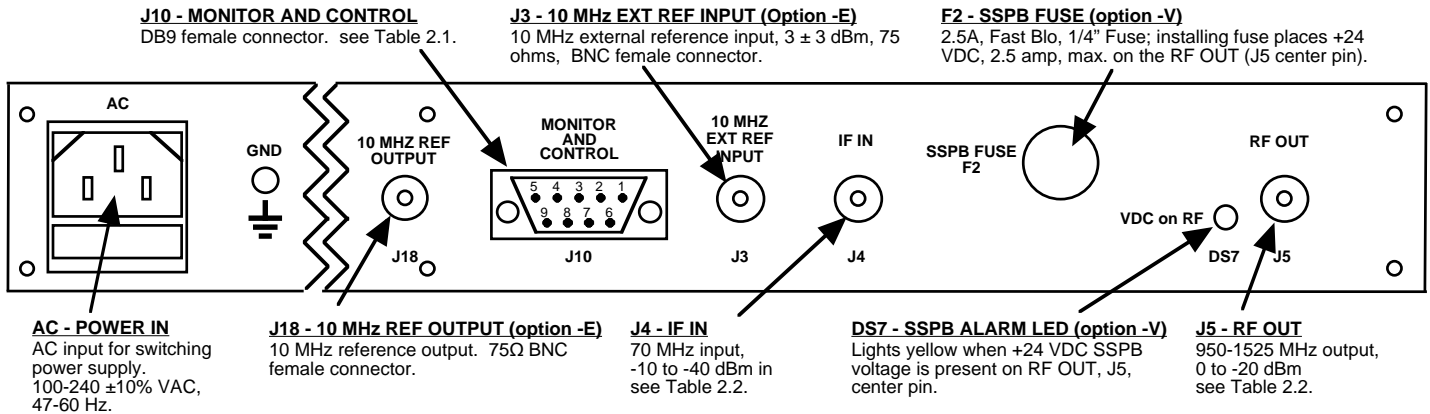

FIGURE 2.1 2015-02 Rear Panel I/O's
Figure 2.1 shows the input and output connectors on the rear panel.
1. Connect a -10 dBm to -40 dBm signal to IF In, J4 (Figure 2.1)
8. Option -V only - To insert SSPB +24 VDC on the RF center pin install 2.5A fast blo fuse in F2 and check that DS7 lights yellow (Figure 2.1)